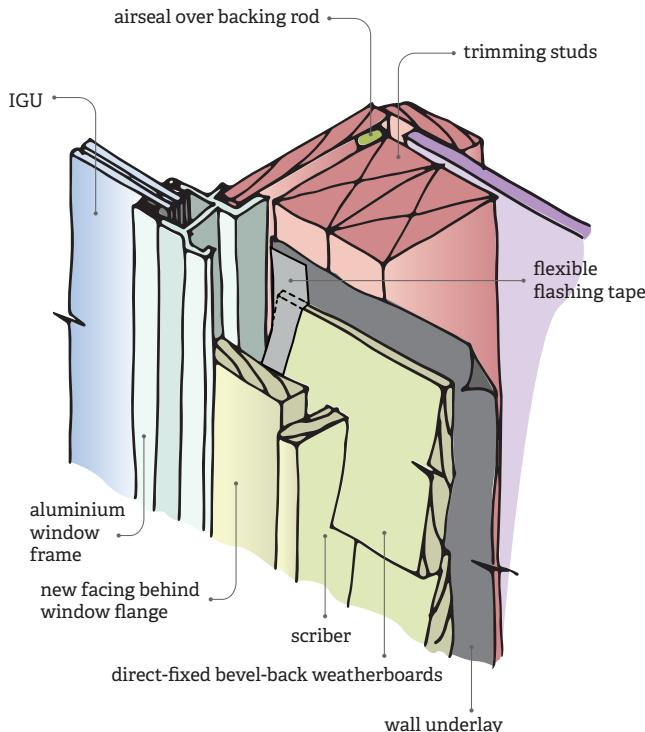

Figure 4. Installing new facings before window is installed.
- installing new facings before the window is installed (Figure 4) – note that this solution will require the replacement of the head flashing due to the position of the window frame relative to the wall framing and the head flashing should extend 20 mm past the outer, vertical face of the facing or scribe